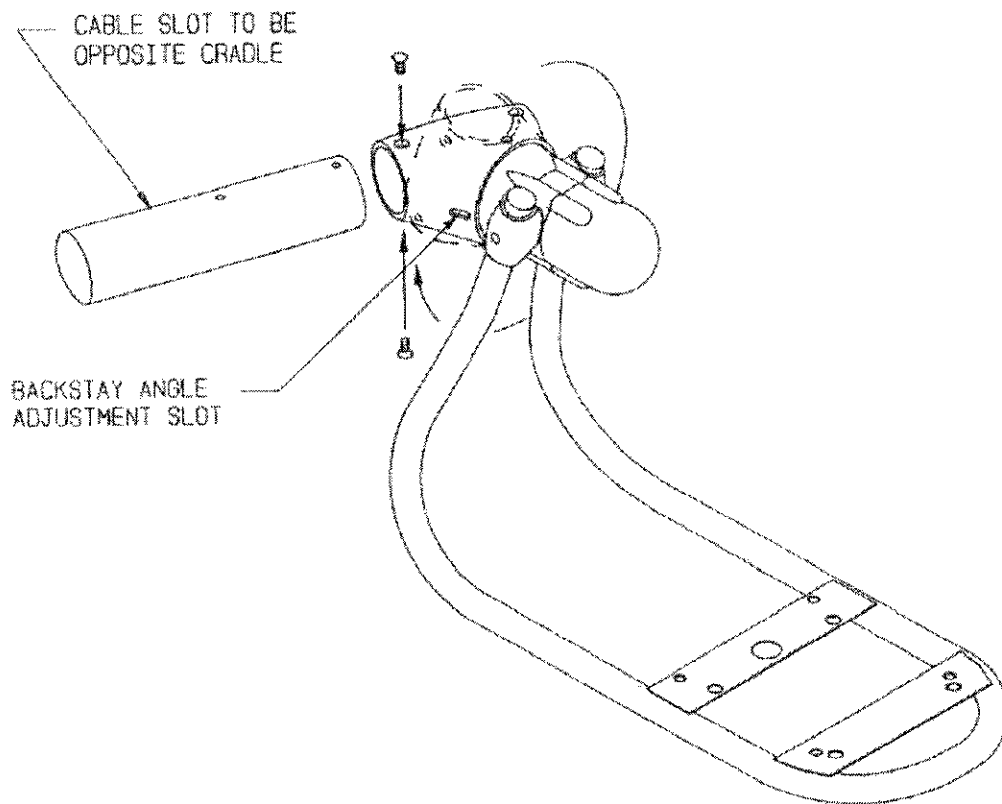

FIGURE 4
- B. Rotate the base of the pivot/damper to horizontal and slide the mounting pole into the bore (see figure 4). Line up the four holes in the tube with those in the pivot/damper making sure the 1" slot for the antenna wire is on the opposite side of the pole from the antenna cradle. Put a few drops of Loctite on the two 3/8" long flat head screws and insert them into the two holes farthest from the open end of the tube.